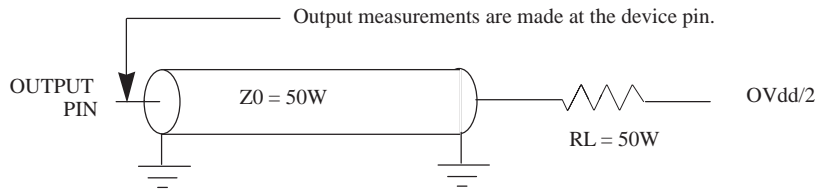

Figure 13: AC Test Load for the PC8240
- 3 All output timings assume a purely resistive 50 ohm load (See Figure 13). Output timings are measured at the pin; time-of-flight delays must be added for trace lengths, vias, and connectors in the system.
- 5 PCI hold times can be varied, see AUCUN LIEN “PCI Signal Output Hold Timing” section for information on programmable PCI output hold times. The values shown for item 13a are for PCI compliance.